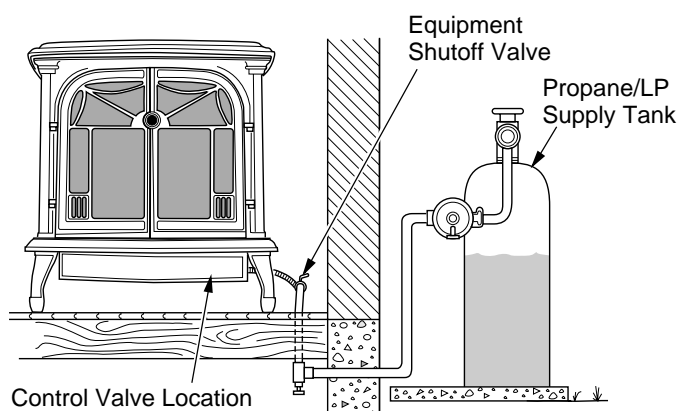

Figure 10 - Checking Gas Joints on Propane/LP Gas Unit
3. Check all joints from gas meter for natural or propane/LP supply to equipment shutoff valve (see Figure 10 or 11, page 10). Apply noncorrosive leak detection fluid to gas joints. Bubbles forming show a leak.
4. Check all joints from equipment shutoff valve to control valve (see Figure 10 or 11). Apply noncorrosive leak detection fluid to gas joints. Bubbles forming show a leak.